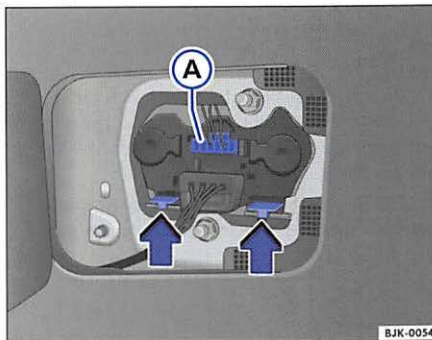

Fig. 39 Brake light and rear turn signal bulb holder unit
- Disconnect connector ⇒fig. 39 (A).
- Press the release tabs ⇒fig. 39 (arrows) and pull the bulb holder out.
- Reconnect the connector (A).